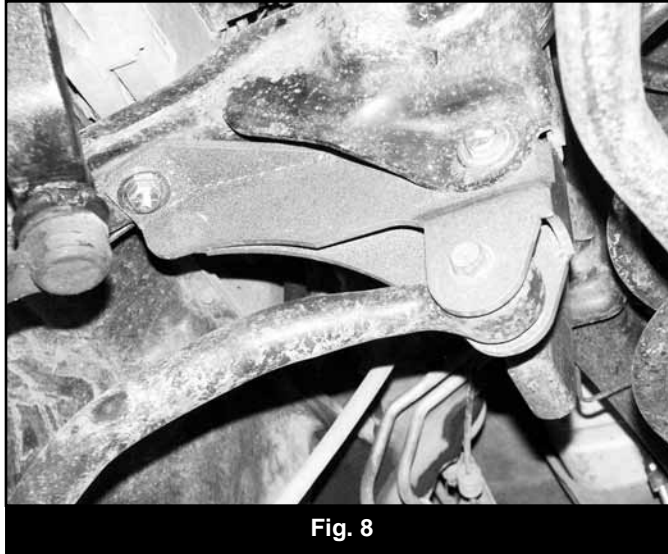

Fig. 8
30. Install the new track bar bracket (01213) to the OE frame mount with the 9/16" x 3" bolt, nut and washers from bolt pack #609. Attach the end of the bracket to the frame crossmember with the 9/16" x 3" bolt, nut and washers from bolt pack #609. (Fig. 8) Torque the 9/16" hardware to 150 ft-lbs.